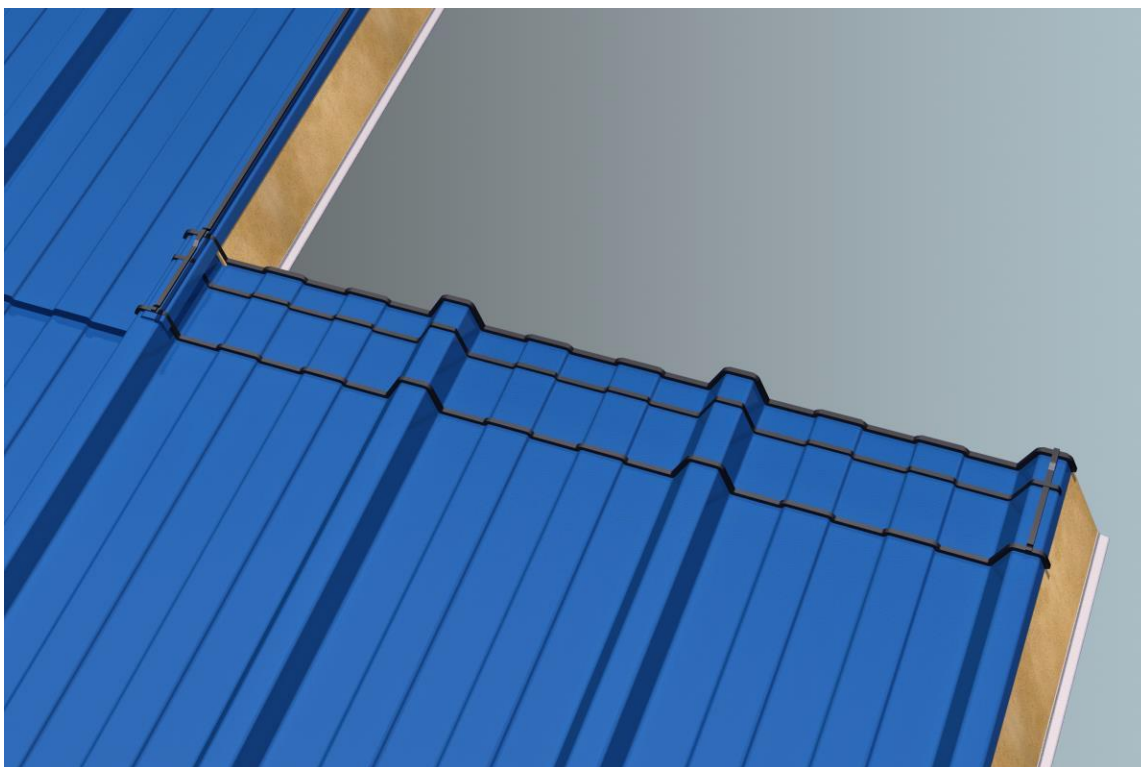

Figure 3
- Apply an additional run of 6 x 5mm butyl sealant along the male crown of panel three for the length of the lap (figure 3, page 8).